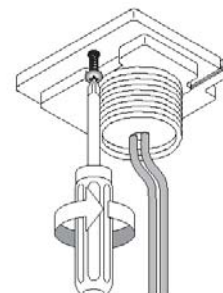

Fig.5
12. Install the Quick Cable Connection with 1 screw. (Fig. 5)